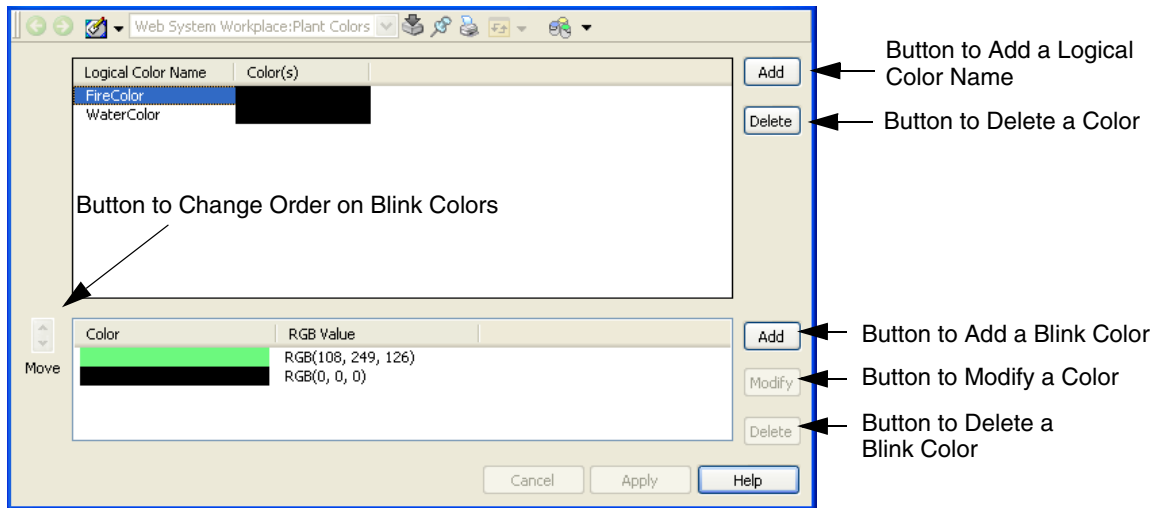

Figure 125. Logical Color Definition Dialog Box
- Select the new aspect and click **Add** in the Config View to define the name of a new logical color. See Figure 125. You can add up to 8 blink colors. The defined colors will be shown for 250 ms each.